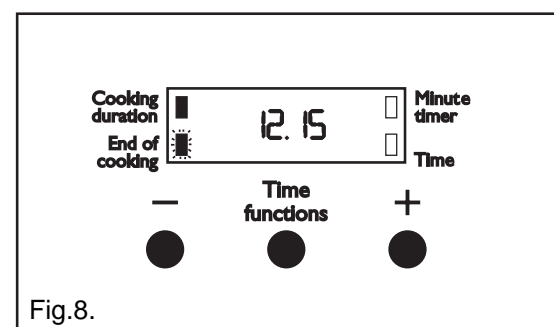

Fig.8.
- 5) To set the 'End of cooking'. Press the Time Functions control button until the 'End of cooking' indicator neon flashes. Press the increase control (+) until the required stop time is displayed, e.g. 12.15 p.m. as Fig. 8. If necessary depress the decrease control (-) until the correct time interval is achieved.